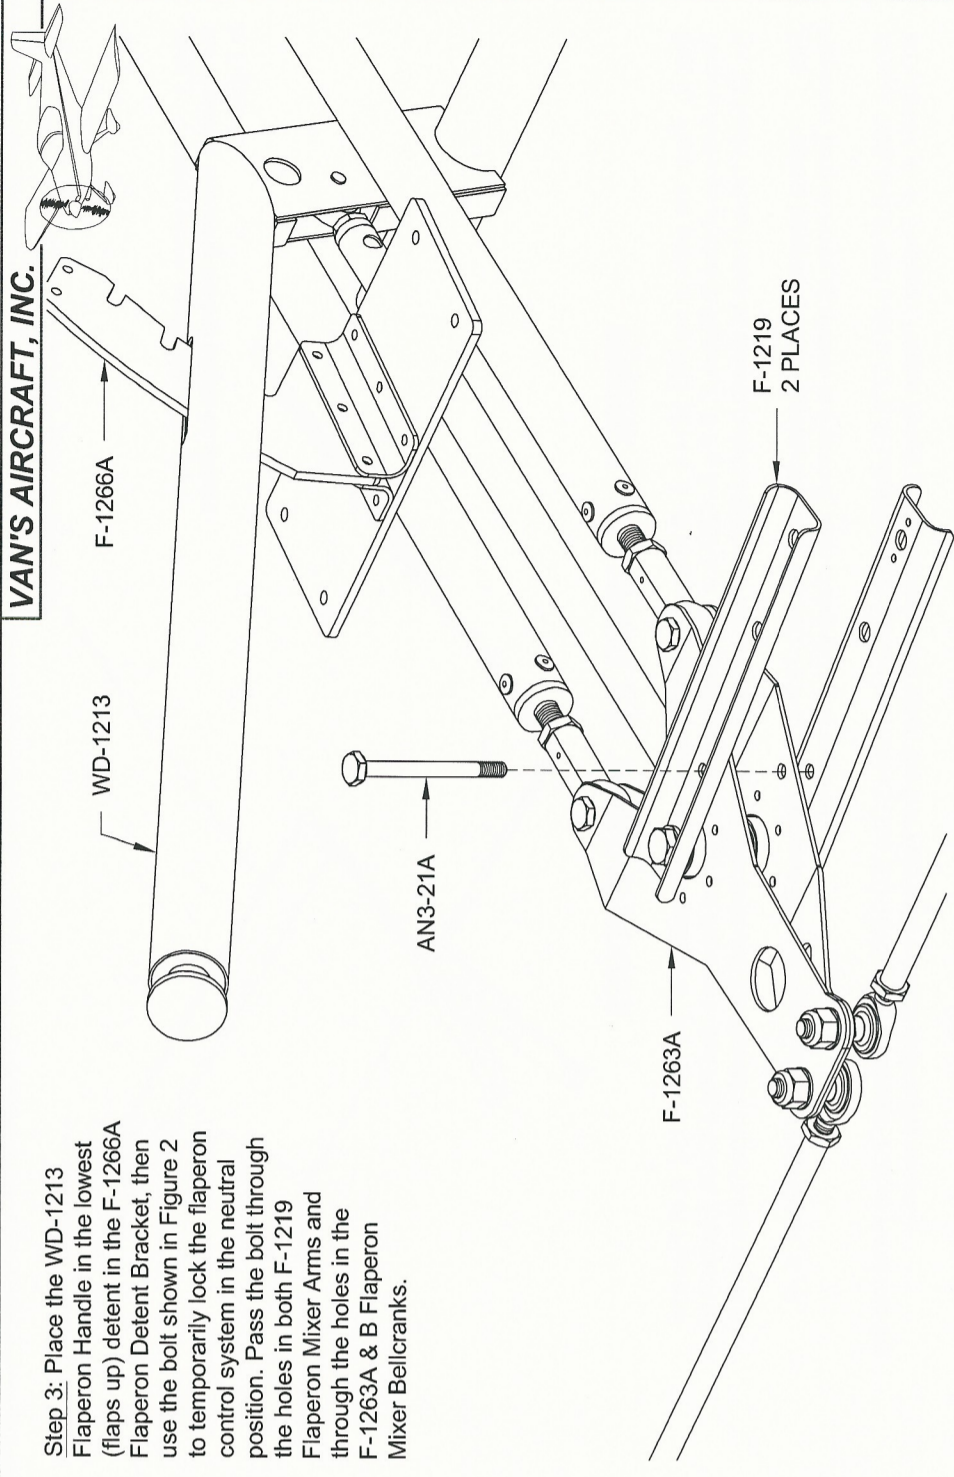

FIGURE 2: LOCKING THE FLAPERON CONTROL SYSTEM
Step 3: Place the WD-1213 Flaperon Handle in the lowest (flaps up) detent in the F-1266A Flaperon Detent Bracket, then use the bolt shown in Figure 2 to temporarily lock the flaperon control system in the neutral position. Pass the bolt through the holes in both F-1219 Flaperon Mixer Arms and F-1263A & B Flaperon Mixer Bellcranks.